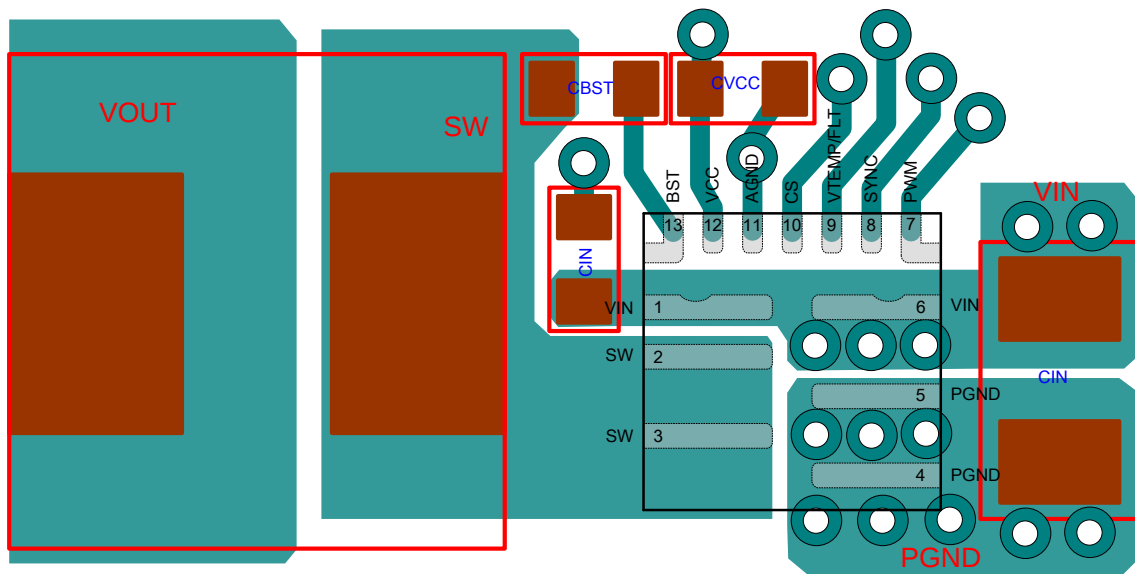

Figure 4: Example of PCB Layout (Placement & Top Layer PCB)
Efficient PCB layout is critical for stable operation. For best performance, refer to Figure 4 and follow the guidelines below.
- Efficient PCB layout is critical for stable operation. For best performance, refer to Figure 4 and follow the guidelines below.